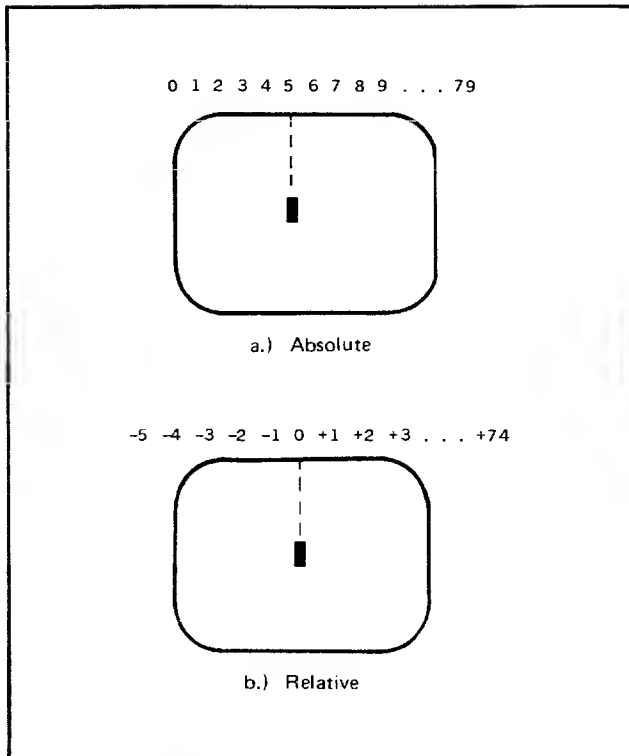

Figure 4-4. Column Addressing
**COLUMN ADDRESSING.** Column addressing is accomplished in a manner similar to row addressing. There is no difference between screen and cursor relative column addressing. Figure 4-4 illustrates the difference between absolute and relative addressing. The cursor is shown in column 5.